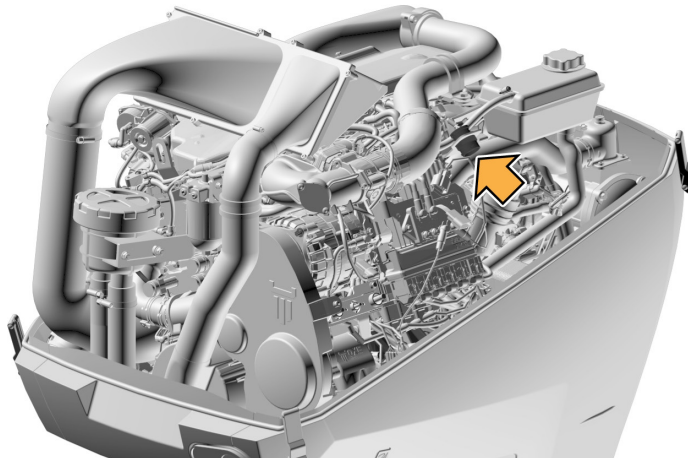

Fig. 104 Engine connector
1. Connect the Kill Cord Loop (KCL) wires in the Common I/O harness, OXE part number 30-0116-629, to the Emergency switch connectors marked "M". See, red arrows on Figure 104.